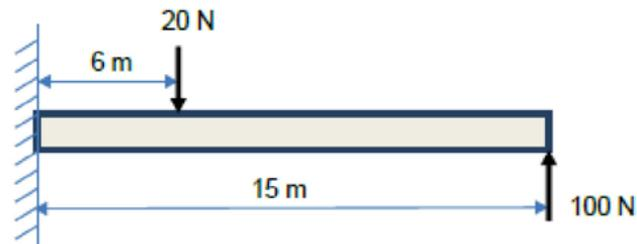

Fig. 5
- (c) Fig. 5 shows a cantilever beam with length 15 m attached to a wall. The total weight of the beam is modelled by a vertical downward force of 20 N acting at a point 6 m from the wall. A vertical upward force of 100 N acts at the other end of the beam.